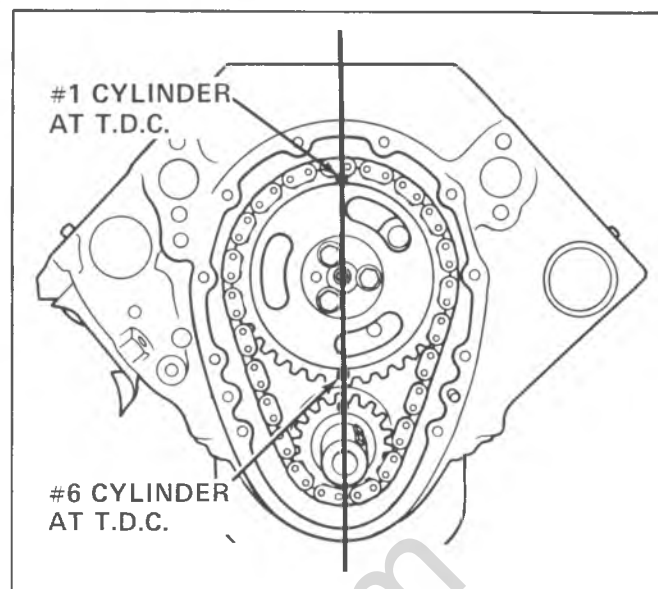

Fig. 6A5-37--Timing Sprocket Alignment Marks
6. Install two 5/16" - 18 x 4" bolts in camshaft bolt holes then remove camshaft (fig. 6A5-36).